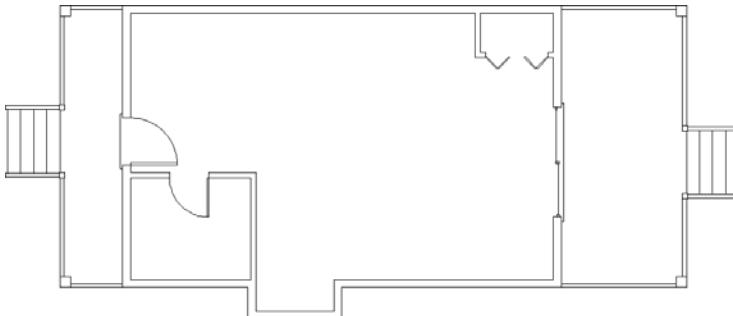

FIGURE 7.13 The floor plan with all swinging doors converted into blocks
6. Use the Zoom Extents tool to show all of the cabin in the drawing area (see Figure 7.13).